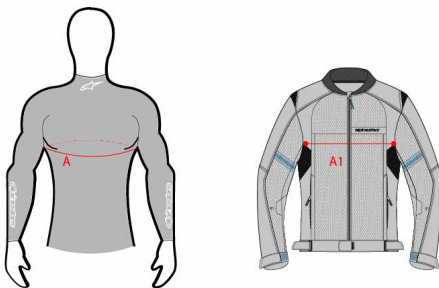

Figure 22: References for the chest circumference (A) and the garment chest width (A1) locations
WARNING! Tech-Air[®] Off-Road shall be worn with any outer garment that meets the following criteria: measure the circumference of the chest (A) and the garment width on the chest region (A1). The garment is compatible with Tech-Air[®] Off-Road System if A1 is greater than A divided by 2 plus 16 cm ($A1 > 0.5 \times A + 16 \text{ cm}$ or $A1 > 0.5 \times A + 6,30 \text{ in}$) (see Figure 22 below).